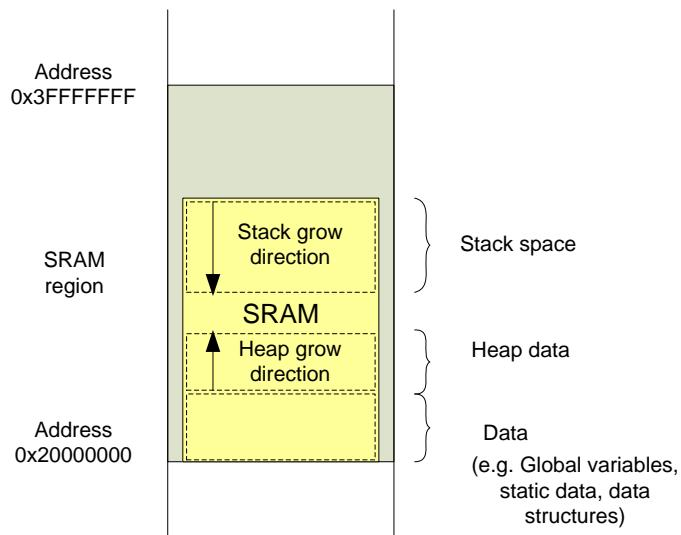

Figure 7.6
In most embedded applications without Operating Systems (OS), only one stack is used (only the Main Stack Pointer is required). In this case the data memory can be arranged as shown in Figure 7.6.